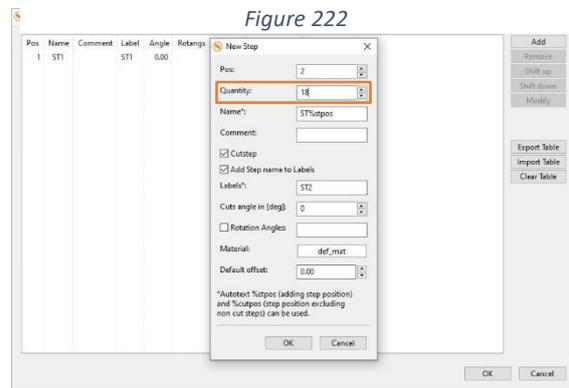

Figure 223
8. Since there is already one step in the table by default, we have to add 18 more steps. Therefore simply enter “18” into the quantity field (Figure 223) and click  to confirm.